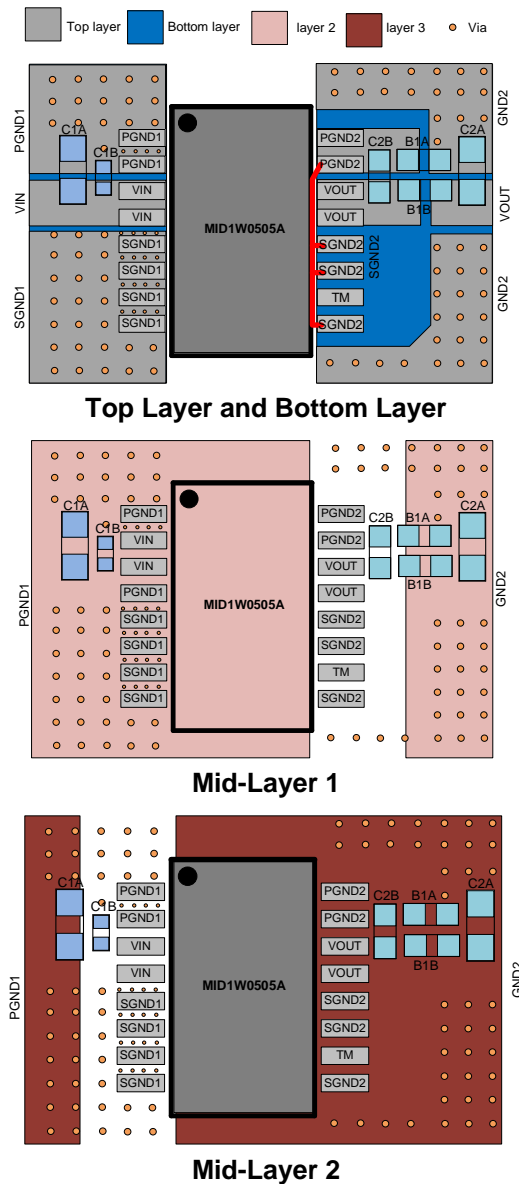

Figure 3: Recommended PCB Layout
8) See Figure 2 on page 9 and Figure 3 on page 10 for details on the EMI circuit and PCB layout.
Efficient PCB layout is critical for stable operation. For the best results, refer to Figure 3 and follow the guidelines below:
5. Connect SGND2 and PGND2 using a thin trace (below the red trace in Figure 3) to reduce radiation.